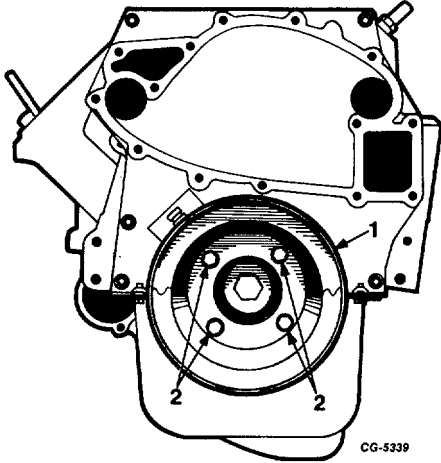

Fig. 46 Crankshaft Pulley Removal
51. Remove bolts and lockwashers securing crankshaft pulley to damper, Figure 46. Remove crankshaft pulley.